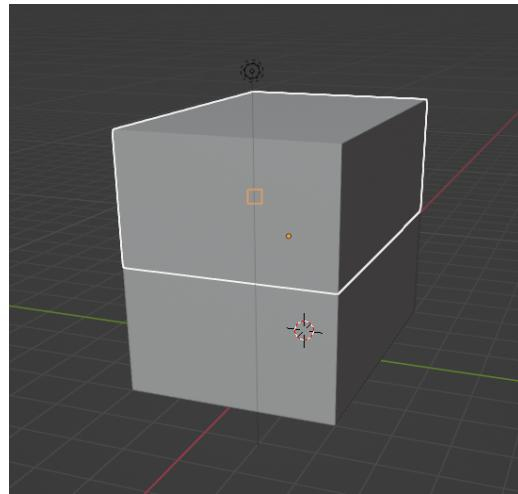

Figure 1.4: Connecting objects using *Snap To Vertex* tool.
6. Use Snap (to vertices) to stack objects (see Fig. 1.4):